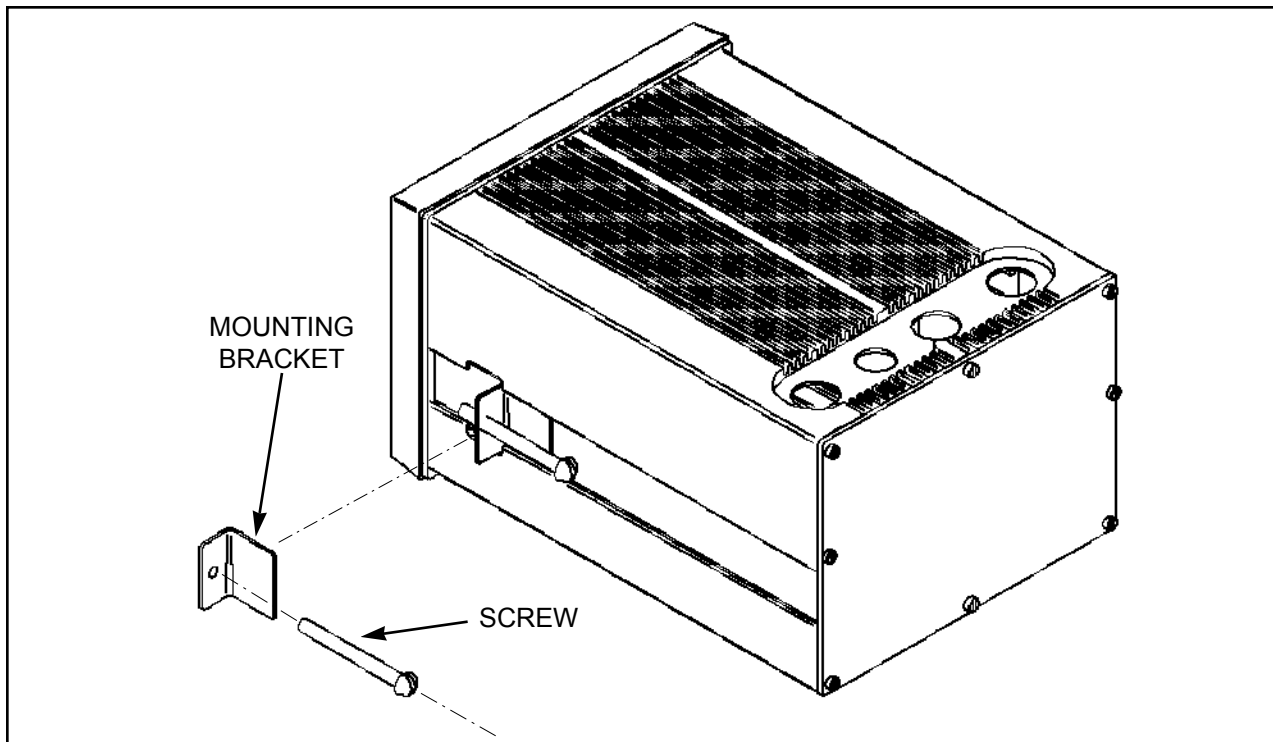

FIG. 3.3b – HARDWARE MOUNTING PROCEDURE
1. Slide the Indicator / Processor enclosure in from the front of the panel until the front flange is seated against the panel, taking care to center the enclosure in the panel cutout, as shown in Fig. 3.3b.
2. Insert the brackets, one at a time into the mounting slots on each side of the enclosure as shown in FIG.3.3b.
1. To gain access to the wiring area: loosen all eight captive screws and remove the rear panel cover, shown in Fig 3.3b. When all wiring has been completed, you must reinstall the rear panel cover, to retain CE compliance and the environmental rating of this unit, shown in Fig 3.17.